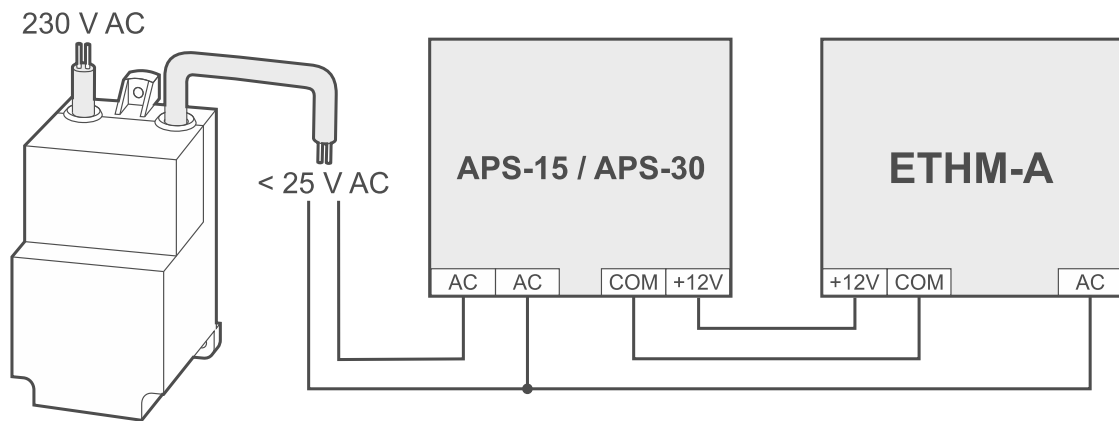

Fig. 6. Example of connecting supply and monitoring AC voltage presence / frequency if the module is powered from SATEL APS-15 / APS-30 power supply unit.
3. If the module is to be powered from the SATEL APS-15 or APS-30 power supply unit, you can connect to the AC input terminal the wire from the secondary winding of the transformer which supplies the AC voltage to the power supply unit (fig. 6). This will enable the ETHM-A module to supervise the presence of AC voltage or measure its frequency.